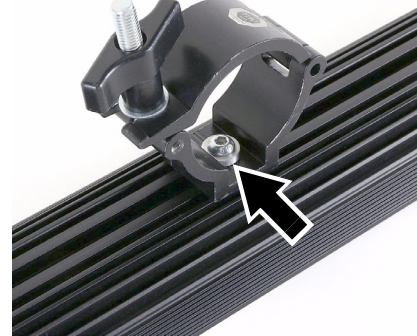

Figure 6: Low-profile Half-Coupler Rigging Clamp
2. See Figure 6. Slide the nut on each clamp through the cutout and into the channel in the back of the fixture.